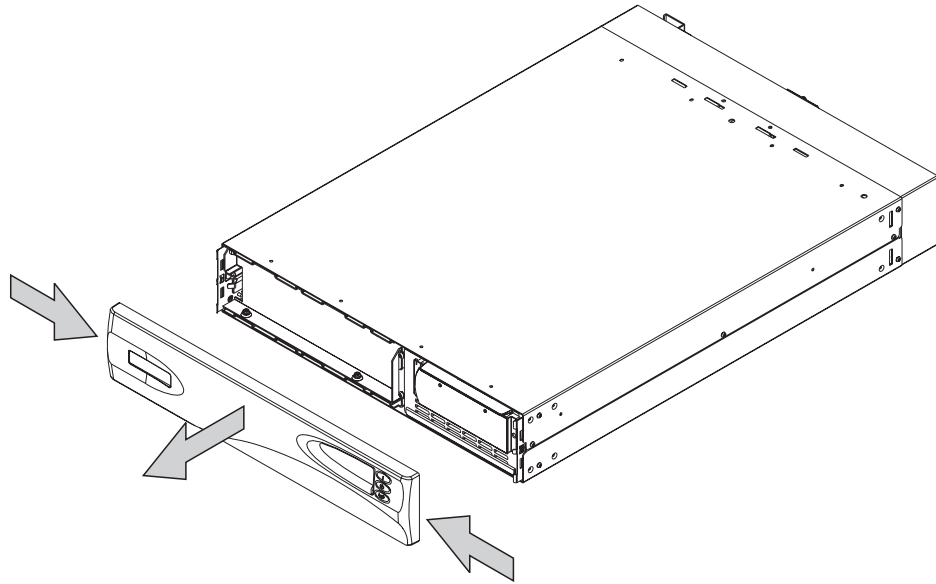

Figure 216. Removing the front panel of the 2145 UPS
3. Remove the front panel by pressing the sides inward and pulling both ends towards you. See Figure 216 on page 475.